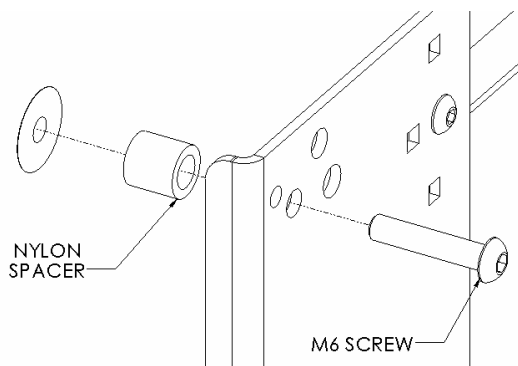
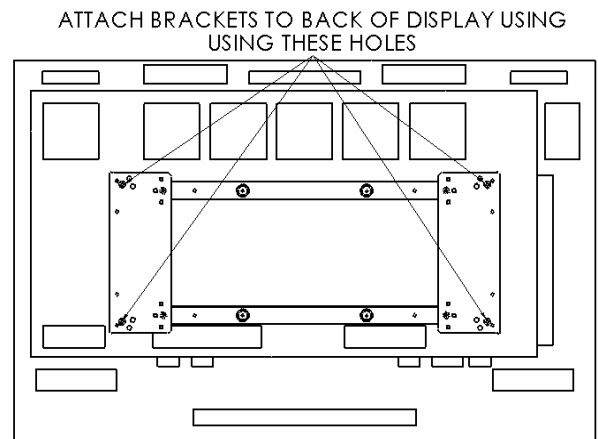

Figure 8
Figure 9
5. **Bracket Installation:** Place Nylon spacers over mounting holes of screen and attach brackets to back of display using the M6 screws (see Figure 8 & Figure 9). Do not over tighten screws.